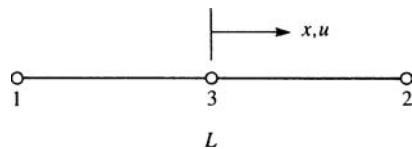

Figure P3-13
- 3.13 Determine the stiffness matrix for the bar element with end nodes and midlength node shown in Figure P3-13. Let axial displacement $u = a_1 + a_2x + a_3x^2$. (This is a higher-order element in that strain now varies linearly through the element.)